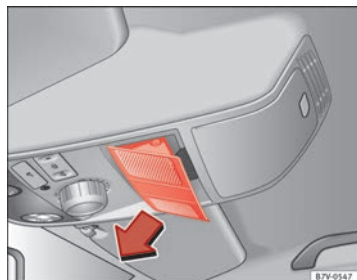

Fig. 195 On the interior roof lining: Remove cover
- Push open the cover in the direction indicated (arrow) ⇒ Fig. 195.